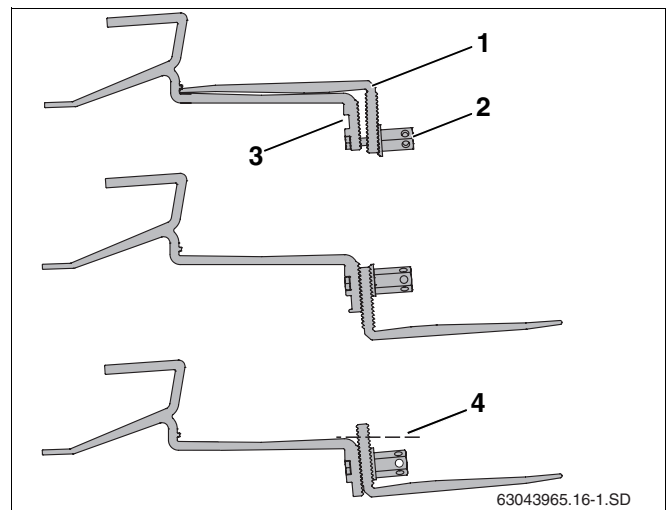

Fig. 17 Repositioning lower part of roof hook
- ▶ Loosen the long hexagon nut (Fig. 17, **Item 2**).
- ▶ Insert bolt into upper hole (Fig. 17, **Item 3**).
- ▶ Loosely fasten lower part of roof hook (Fig. 17, **Item 1**). Do not tighten the connection yet.